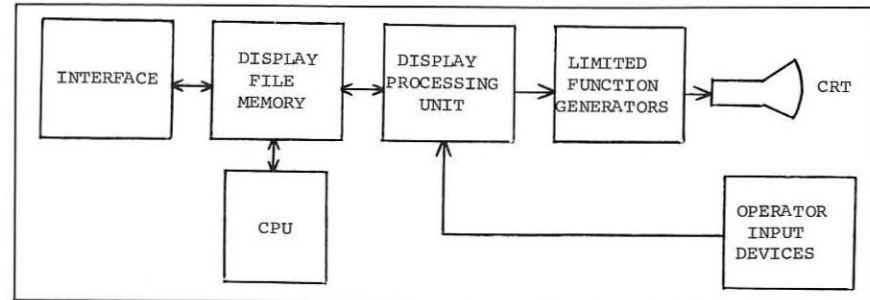

Figure 4. CPU/Buffer Refresh—Limited Graphics
3. *Limited Graphics/CPU Buffer* (Figure 4)